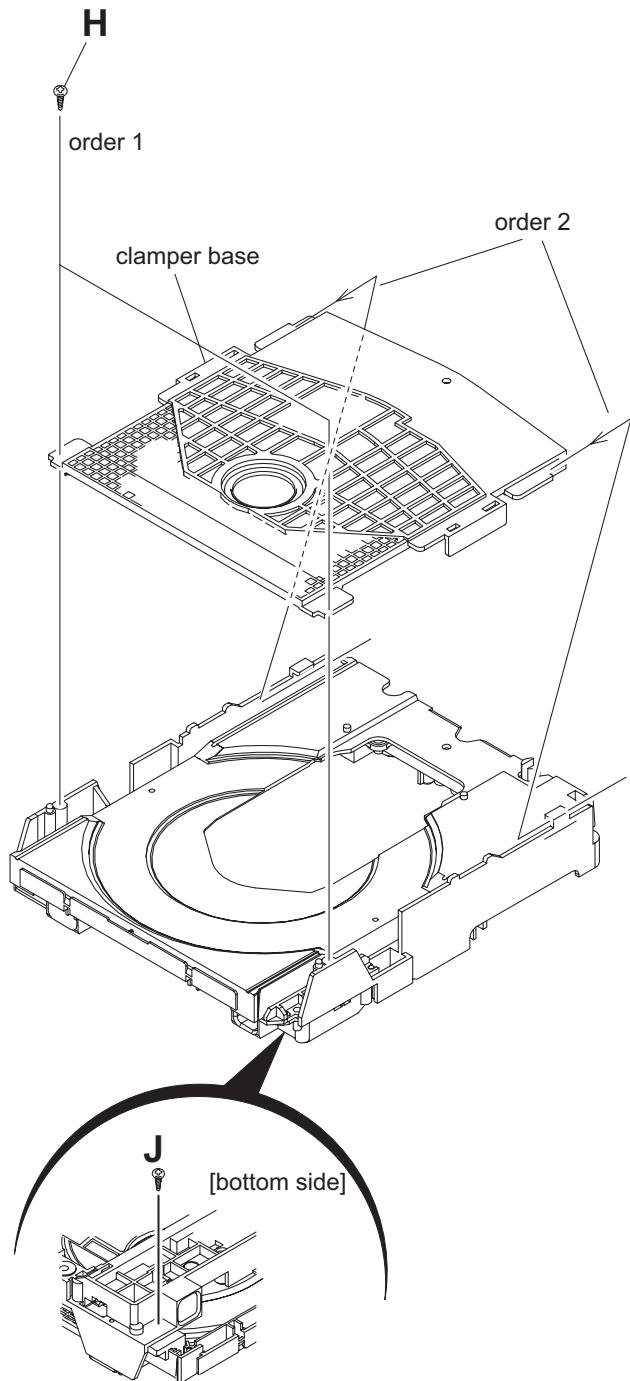

Fig.12
(See Fig.12 & 13)
- (1) Remove the two screws **H** attaching the clamper base. (See Fig.12)
- (2) Remove the one screw **J** attaching the shaft guide from bottom side. (See Fig.12)